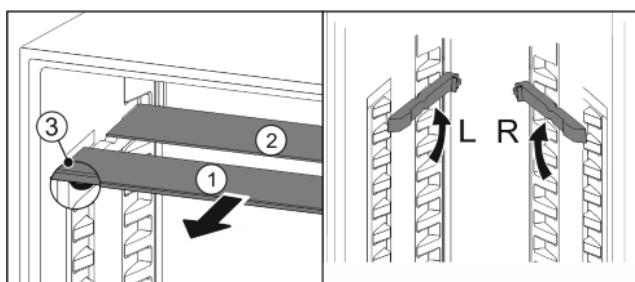

Fig. 20
- Pull the glass panels out Fig. 20 (1) from the front, one at a time.
- ▷ Glass panel Fig. 20 (1) with pull-out stoppers is at the front.
- ▷ Stoppers are pointing down Fig. 20 (3).